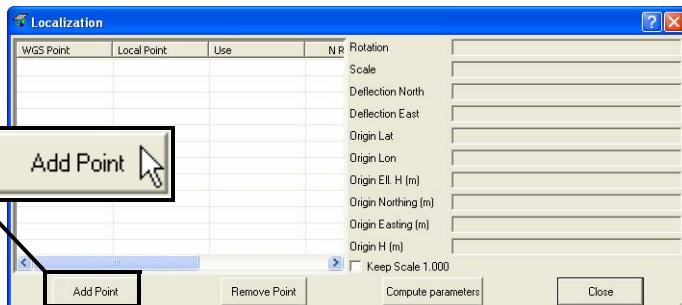

Figure 6-41. Add Point to Localize
3. To perform localization using these two sets of coordinates, click **Process ▶ Localization** or press **Shift+F8** to open the **Localization** dialog box. Click **Add Point** (Figure 6-41).